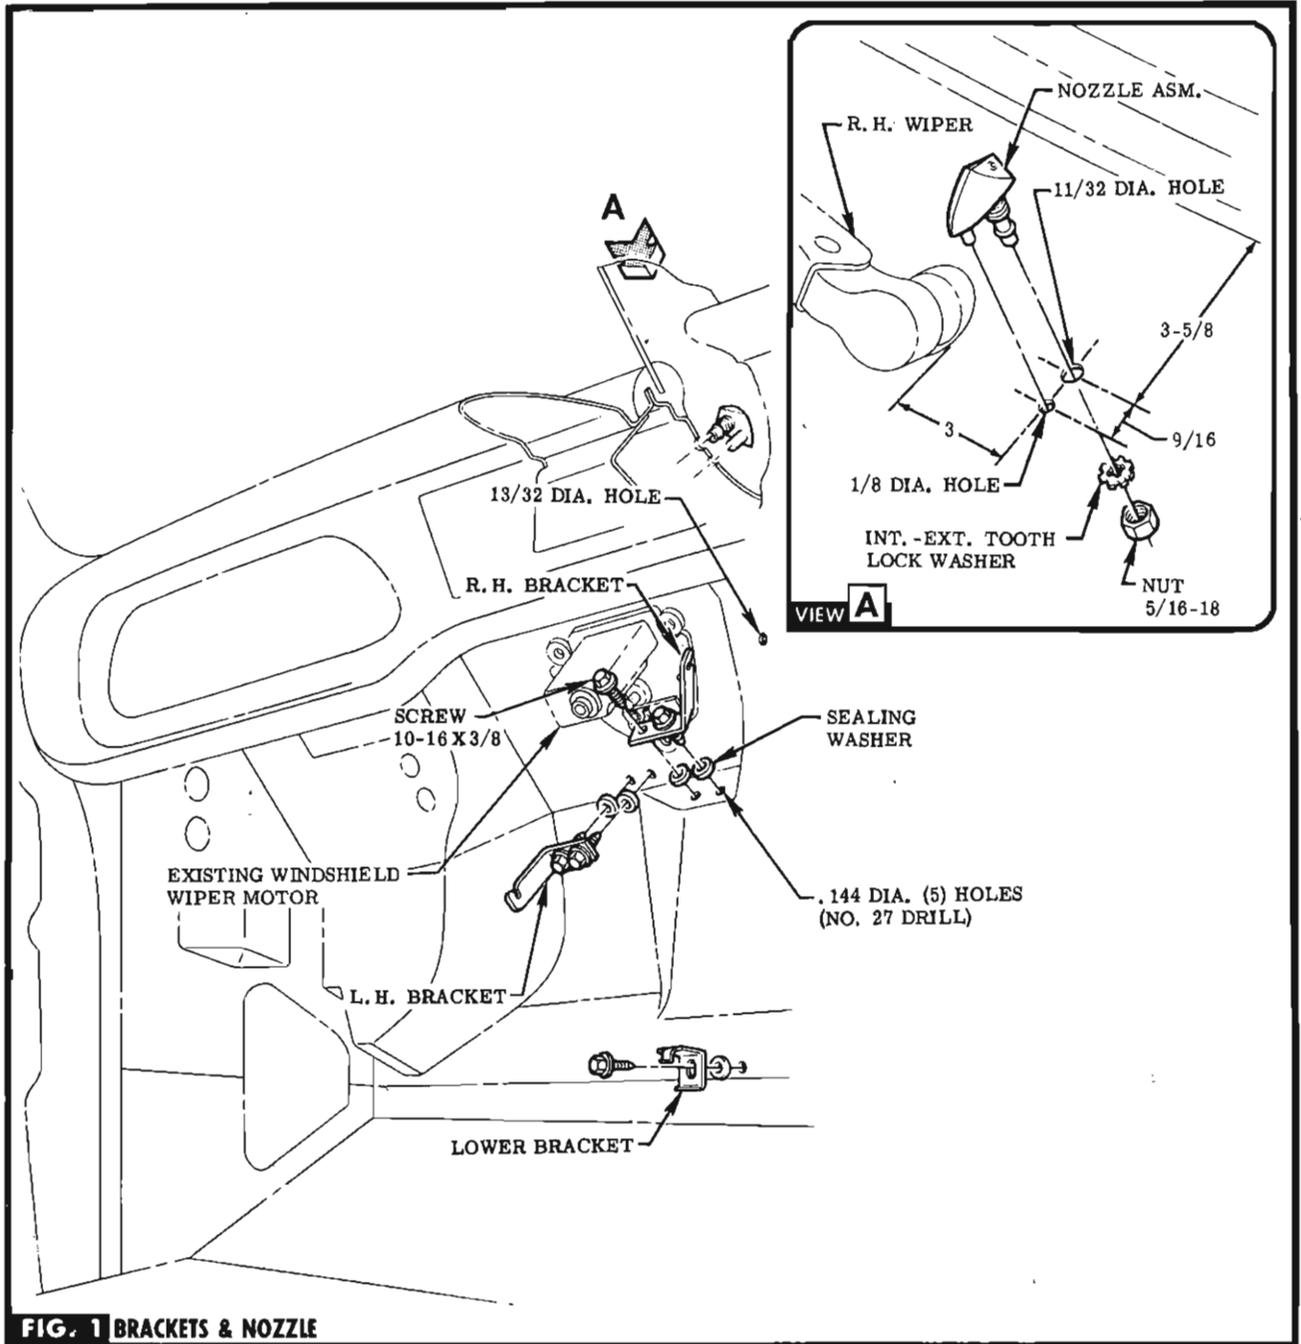

FIG. 1 BRACKETS & NOZZLE
STEP 1 LOCATE EXISTING DIMPLE & DRILL LARGE HOLE IN TRIM PANEL. SEE FIG. 1.
STEP 2 INSERT SUNSHADE & SUPPORT INTO HOLE & LINE UP WITH TOP OF WINDSHIELD OPENING & L. H. SUNSHADE. SEE FIG. 1. **CAUTION** Be sure bracket is located sym-
STEP 3 USING SUPPORT AS TEMPLATE CENTERPUNCH & DRILL HOLES. SEE FIG. 1.
STEP 4 INSTALL SUNSHADE WITH ATTACHING PARTS PROVIDED. SEE FIG. 1.
STEP 1 LOCATE EXISTING DIMPLES IN DASH PANEL & DRILL HOLES FOR UPPER R. H. & L. H. & LOWER BRACKETS & GROMMET. SEE FIG. 1. **NOTE** If heater exists, use lower hole of heater control cables clip for attaching lower bracket.
STEP 2 INSTALL RESERVOIR UPPER & LOWER MOUNTING BRACKETS WITH ATTACHING PARTS PROVIDED. SEE FIG. 1.